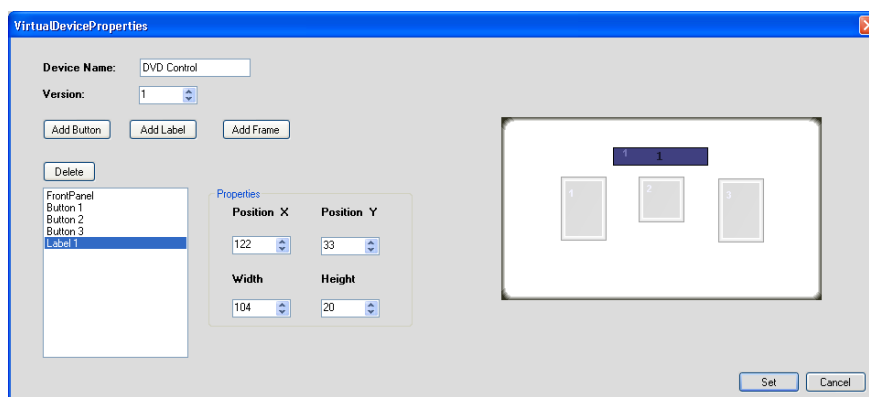

Figure 20: Editing the Virtual Device Appearance (Step 2)
2. Set the size of the front panel, the size of the buttons (up to 32 buttons can be added), the label size and their position, as well as the Device Name (see Figure 20):